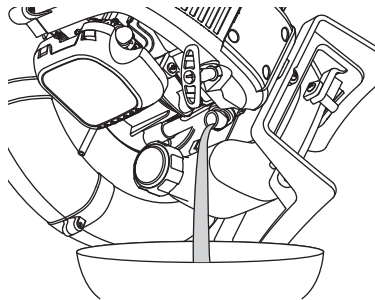

Fig. 22
2. Pour the oil out of the oil fill hole and into a container by tipping the unit to the side (Fig. 22). Allow ample time for complete drainage.